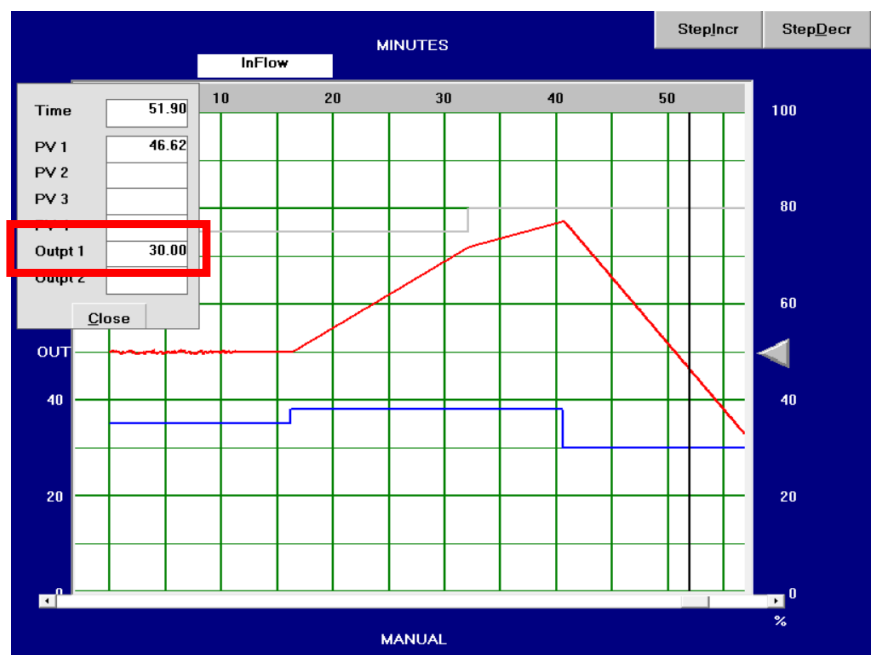

Figure 27: PV response after decreasing the controller output to 30 %
- So, the PV will decrease but **will not ever be stabilized by manual control** as the PV will decrease gradually till reaching 0% as shown in fig.27.